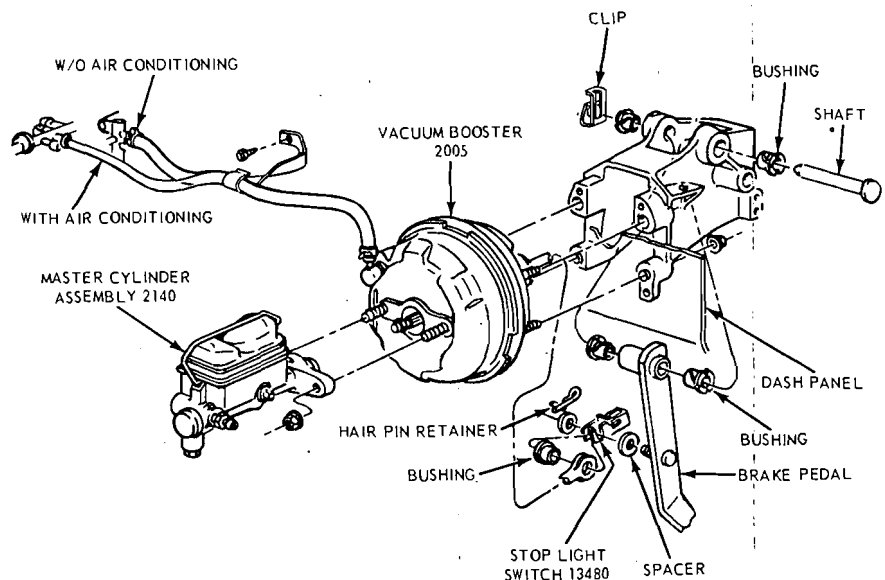

FIG. 29—Master Cylinder Installation—Power Brake—
1. Remove the brake tubes from the primary and secondary outlet ports of the master cylinder (Figs. 29 thru 33).
2. Position the master cylinder assembly over the booster push rod and onto the two studs on the booster assembly (Figs. 29 thru 33).
switch off from the brake pedal pin just far enough for the switch outer hole to clear the pin, and then remove the switch from the pin and booster push rod. Be careful not to damage the switch during removal. Slide the booster push rod and the nylon washers and bushing off the brake pedal pin (Figs. 29 thru 33).